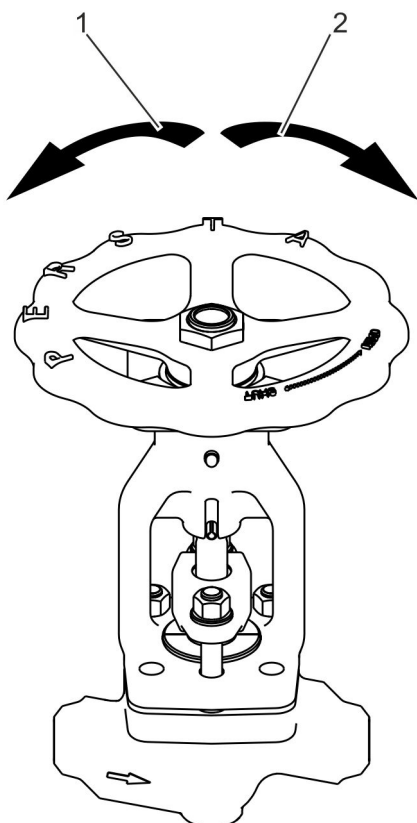

Fig. 17: Valve: Top view
2. ➤ Fully open the valve by turning the handwheel counterclockwise (Fig. 17/1).
3. ➤ Fully close the valve by turning the handwheel clockwise (Fig. 17/2).